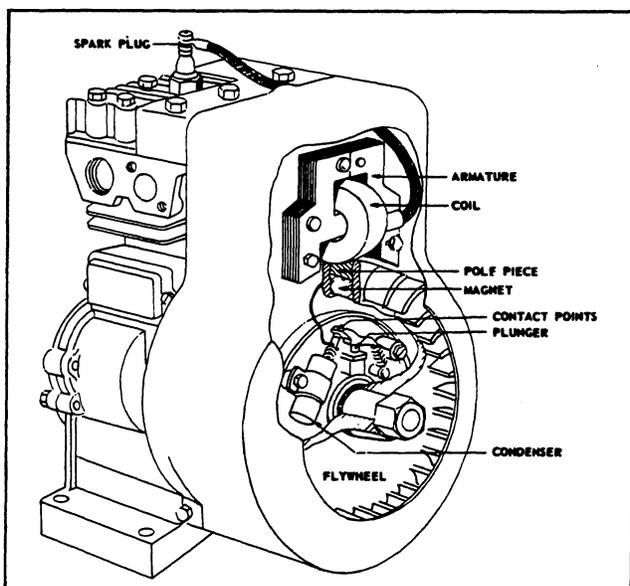

Fig. 4 — Flywheel Ignition Internal Breaker
2. A flywheel type, having either an internal or external breaker system. Fig. 4 and Fig. 25.